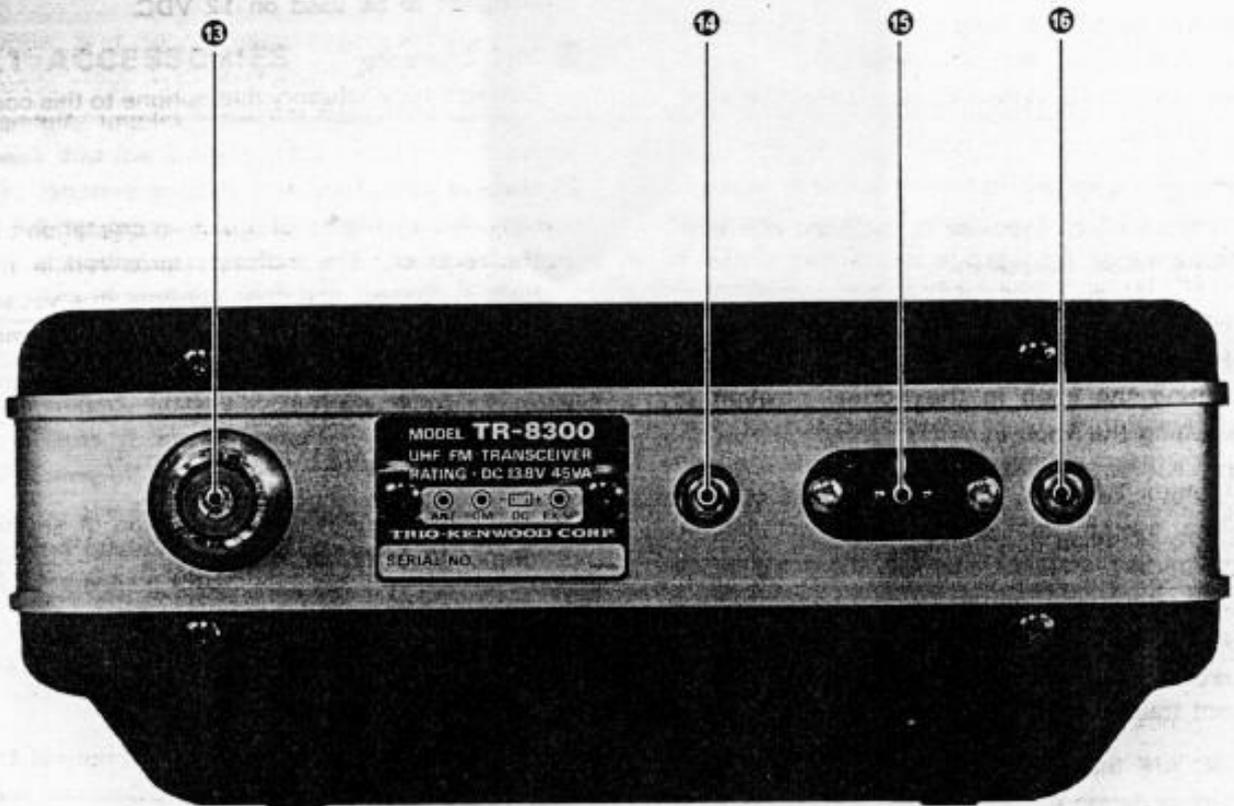

Fig. 2
2.2 REAR PANEL (Refer to Fig. 2)